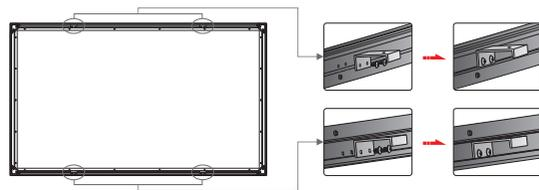

Figure 21
1. Each screen is equipped with 4 brackets labelled 1,2,3,4; and thus the concave frame has relevant marks of 1, 2, 3, 4. When installing the brackets, use the $\phi 5 \times 10$ mm screws to fix the bracket 1* to mark 1* on the concave frame. Do the same for bracket 2*, 3* and 4*. (Figure 21). Make sure the screws are tightly fastened.